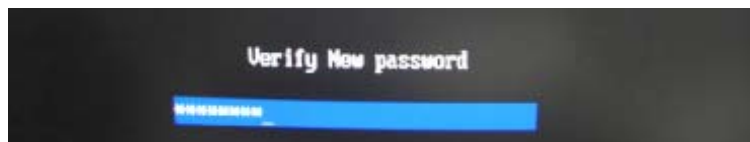

Figure 8-4: Verify New Password
Step 4: Verify the new password by entering again (**Figure 8-4**).